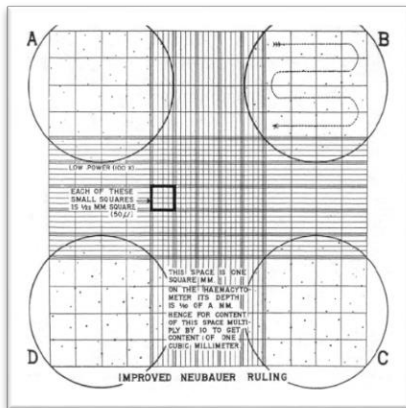
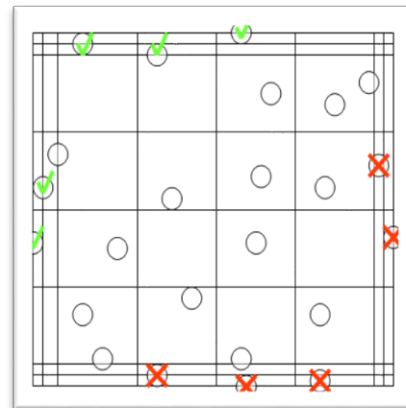

Figure 1: Hemacytometer Fields
Figure 2: Cell Counting Criteria
3.2.16 Count the viable cells with an inverted bright field microscope at 10X using phase contrast. Count the live/dead cells in the four large corner squares in both chambers as demonstrated in Figure 1 and Figure 2. If there is not at least 75 total cells counted in the four corner squares, re-dilute the cell suspension and count again. Live/viable cells are trypan blue negative and dead cells are trypan blue positive.